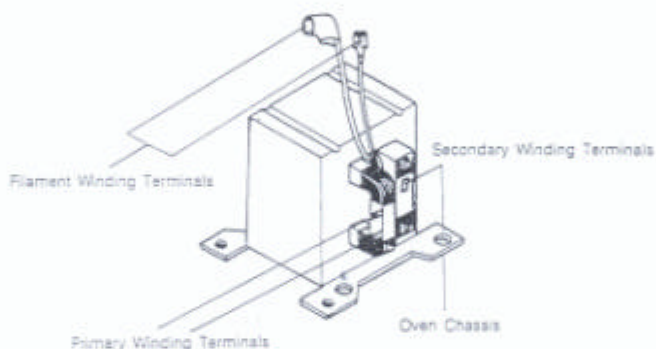

Fig. 10.1
10.1 High Voltage Transformer (Fig. 10.1)